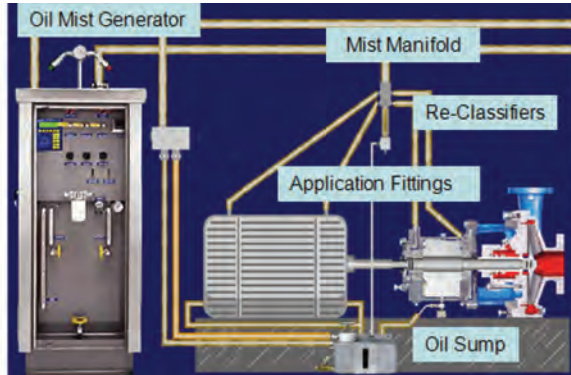

Figure 3. Oil Mist.
- *Oil mist*—A system that consists of a tank, tubing, and piping to each item being lubricated, an atomizer, and various safety devices relating to flow and level in the reservoir. With this system there may or may not be a level in the lubricated piece of equipment. There are two general types of mist systems. One is pure mist where there is no lubricant reservoir in each piece of equipment. The other type is a purge mist system where there is a level in the lubricated piece of equipment and oil mist fills the “air” space above the reservoir to control that atmosphere (refer to Figure 3).